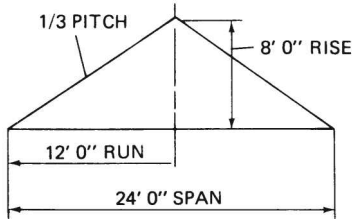
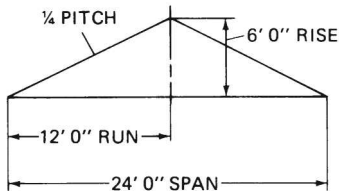

Fig. 7-31 One-third pitch. (Stanley Tools.)
Fig. 7-32 One-fourth pitch. (Stanley Tools.)
Pitch The pitch of a roof is the slant or slope from the ridge to the plate. It may be expressed in several ways: (1) The pitch may be described in terms of the ratio of the total width of the building to the total rise of the roof. Thus the pitch of a roof having a 24-foot span with an 8-foot rise will be 8 divided by 24, which equals one-third pitch (Fig. 7-31). (2) The pitch of a roof also may be expressed as so many inches of vertical rise to each foot of horizontal run. A roof with a 24-foot span and rising 8 inches to each foot of run will have a total rise of $8 \times 12 = 96$ inches, or 8 feet. Eight divided by 24 equals $\frac{1}{3}$. Therefore, the roof is one-third pitch (see Fig. 7-31). Note that in Fig. 7-32, the building is 24 feet wide. It has a roof with a 6-foot rise. What is the pitch of the roof? The pitch is 6 divided by 24, or $\frac{1}{4}$.